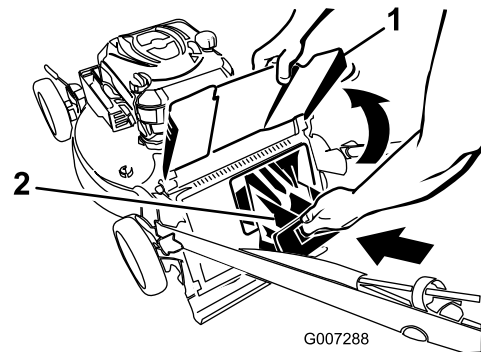

**Figure 32**
1. Route the starter rope around the lower rope guide (Figure 32).